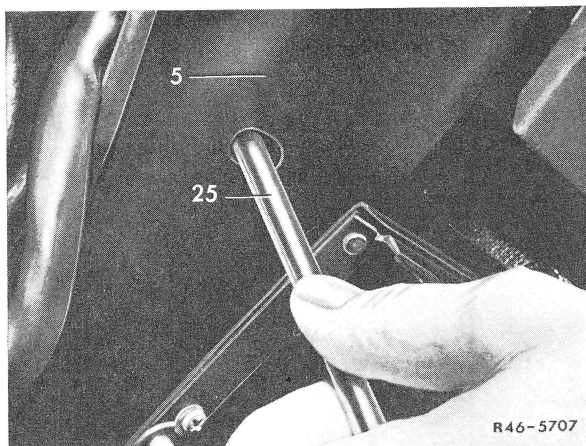

Fig. 5
13 Check longitudinal adjustment of steering spindle through bore in jacket tube (5). For this purpose, insert assembly pin (25) into pertinent checkup bore of steering spindle (Fig. 5).